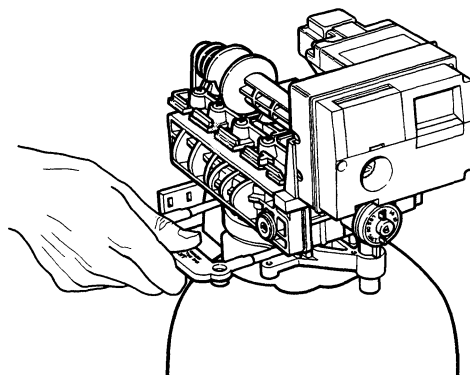

Figure 14-D
6. Using a rocking motion, lift control from the tank adapter (Figure 14-E). If o-Ring seals come off with control, put them back into tank adapter sockets. Lubricate o-Rings with silicone lubricant.